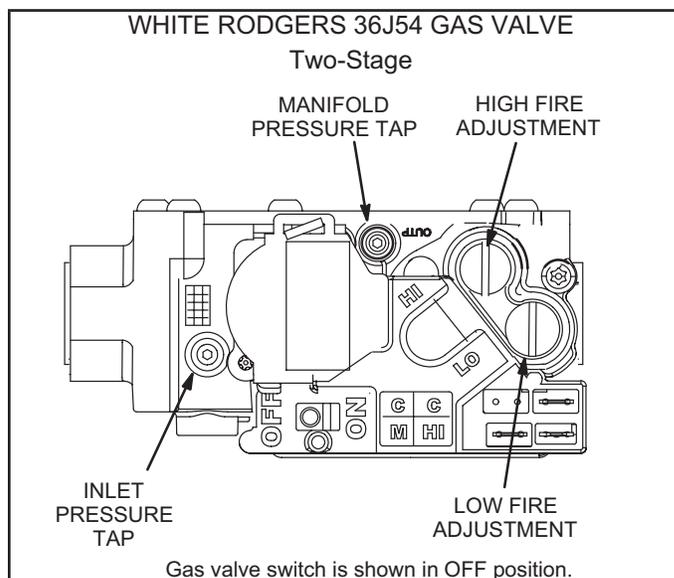

FIGURE 24
Gas Valve Operation (FIGURE 24)
- 5 - Move gas valve switch to **OFF**. See FIGURE 24.
- 6 - Wait five (5) minutes to clear out any gas. If you then smell gas, **STOP!** Immediately call your gas supplier from a neighbor's phone. Follow the gas supplier's instructions. If you do not smell gas, go to the next step.
- 7 - Move gas valve switch to **ON**. See FIGURE 24.